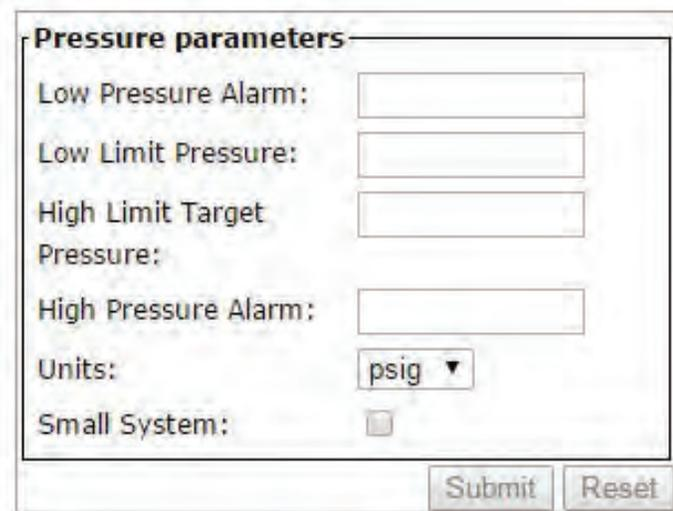

FIGURE 21. Pressure Parameters.
1. Connect to the dehydrator. Go to the Configuration page. Locate the Pressure Parameters field. See Figure 21.